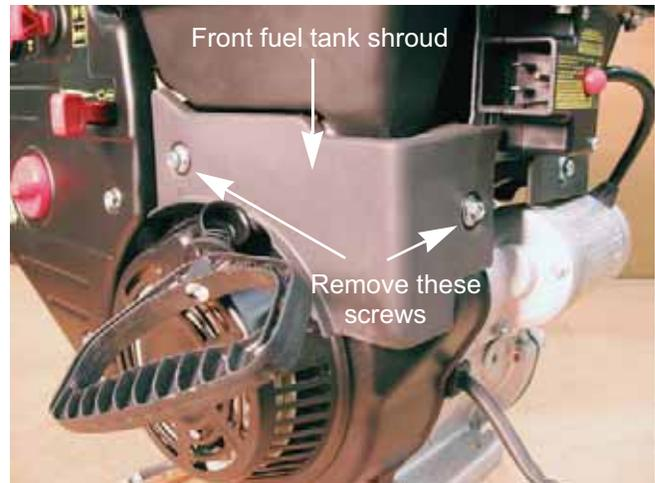

Figure 7.11
3. Remove the front fuel tank shroud using a 10 mm wrench. See Figure 7.11.
6. Disconnect the leads that runs from the module to the stop switches. See Figure 7.11.